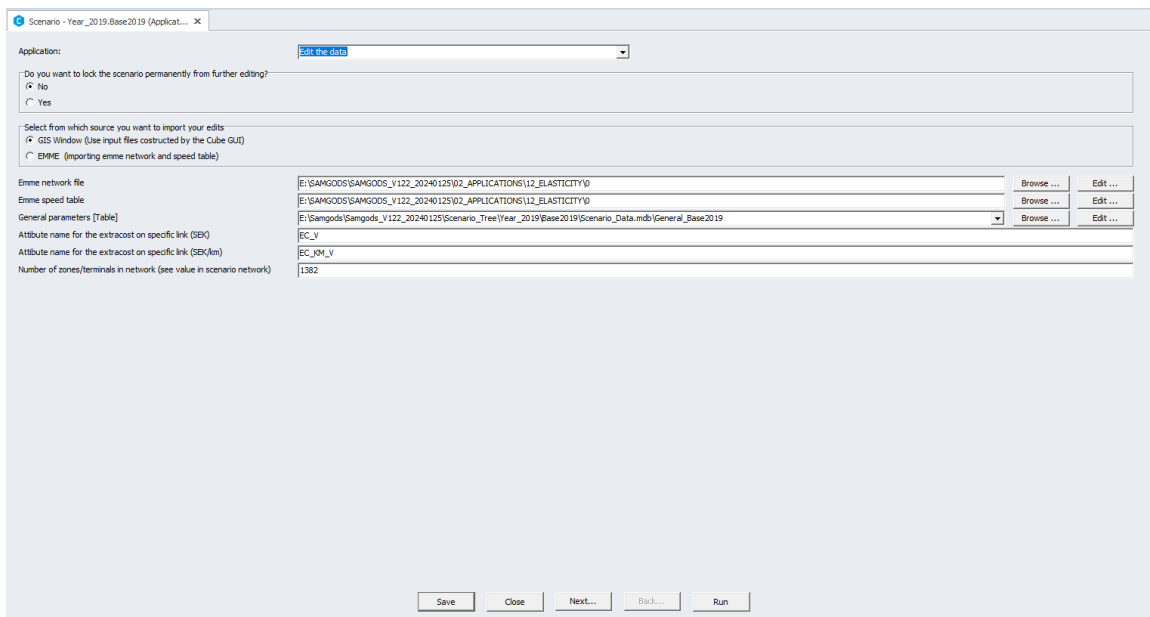
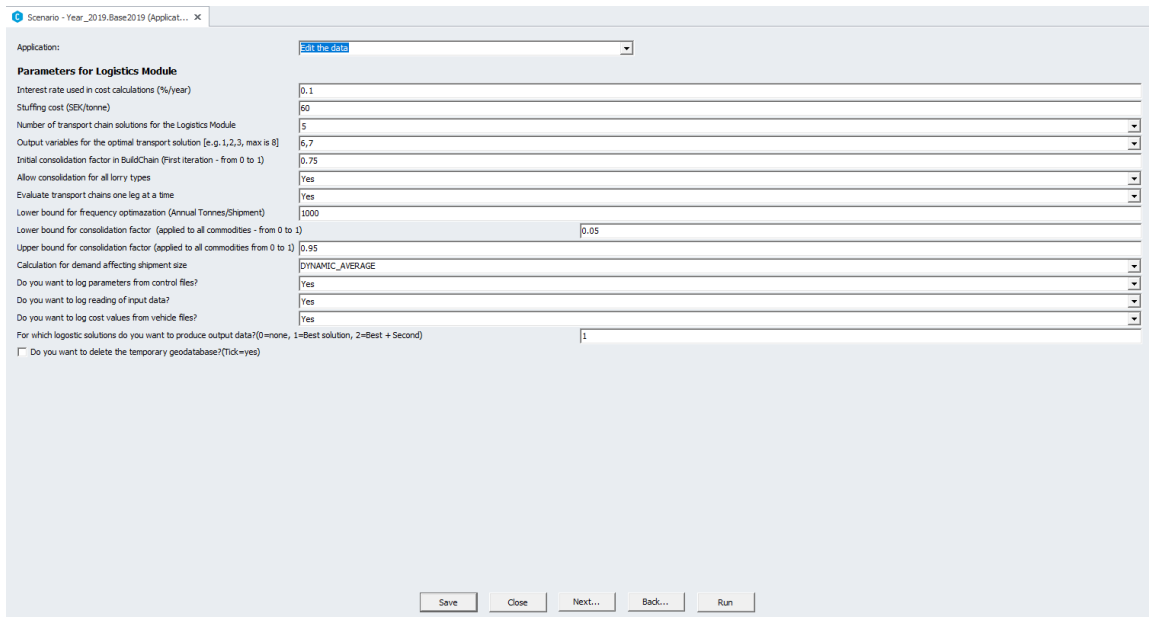
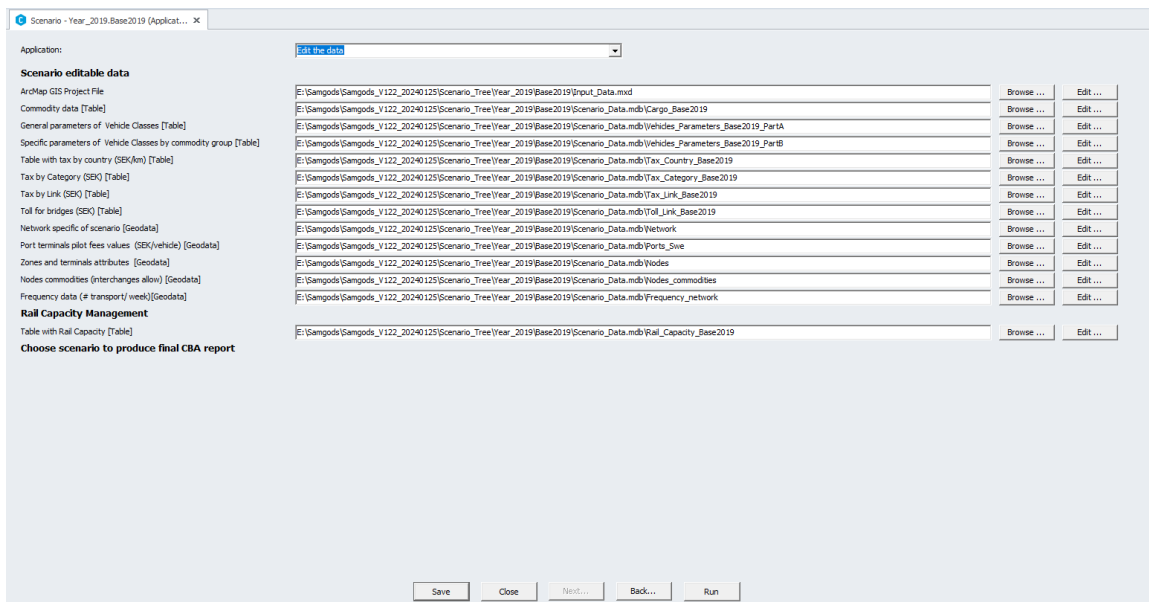

Figure 48 Catalog keys in first window for *Edit the data* application
Figure 49 Catalog keys in second window for *Edit the data* application
Figure 50 Catalog keys in third window for *Edit the data* application
The temporary geodatabase is now available in the scenario folder (located in the Scenario_Tree folder, see Table 1 in Section 5.5) with all the scenario data. To visualize the tables and the layers of the scenario, change the application from *Create the editable files* to *Edit the data* in the Scenario manager window. In Figure 48 and Figure 38 the default values of the catalog keys are displayed. The first set of catalog keys (Figure 50) lists the scenario parameters and each catalog key has an editing box (a box where a numerical value or label is expected), a scroll down menu, or a check box.
The second set of catalog keys (Figure 49), accessed by clicking "Next..." in the window in Figure 48 consists of tables and layers of scenario data. By clicking the "Edit..." button on the right, the data is opened in the correct format (i.e., a table in a database window or a layer in a GIS window). Descriptions of the keys and of how to use them for editing and displaying the data are given in Section 7.4.
Tip: To visualize all the layers in a map, click the “Edit...” button, next to the ArcMap GIS Project File catalog, key shown in Figure 50 pointing at the file Input_Data.mxd. All the geographical data will be loaded with a few default legends. The same file is available via Scenario Inputs\Editable Data\ Input_Data.mxd in the Data Section window.
The first set of catalog keys (Figure 48) lists the scenario parameters and each catalog key has an editing box (a box where a numerical value or label is expected), a scroll down menu, or a check box. The second set of catalog keys (Figure 49) accessed by clicking “Next...” in the window in Figure 48) consists of tables and layers of scenario data. By clicking the “Edit...” button on the right, the data is opened in the correct format (i.e., a table in a database window or a layer in a GIS window). Another way to access the data is to use the Data Section window, where the scenario data can be found in the folder Scenario Inputs\Editable data.
Tip: To visualize all the layers in a map, use the first catalog key (“ArcMap GIS Project File”) shown in Figure 50, pointing at the ***Input_Data.mxd*** file. Click the “Edit...” button and all the geographical data will be loaded with only a few default legends. The same file is also available via the *Data Section* window, in ***Scenario Inputs\Editable Data\Input_Data.mxd***.
- 5) If the scenario still should be editable, select “No” in the first catalog key (first group of catalog keys, Figure 48) (to lock the scenario, select “Yes)